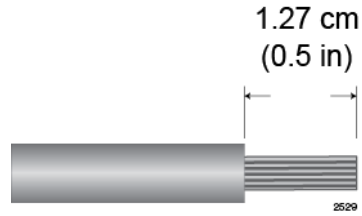

Figure 120. Stripping the Power Wires
1. Prepare adequate lengths of two stranded 8 AWG power wires by stripping them as shown in Figure 120 on page 188.